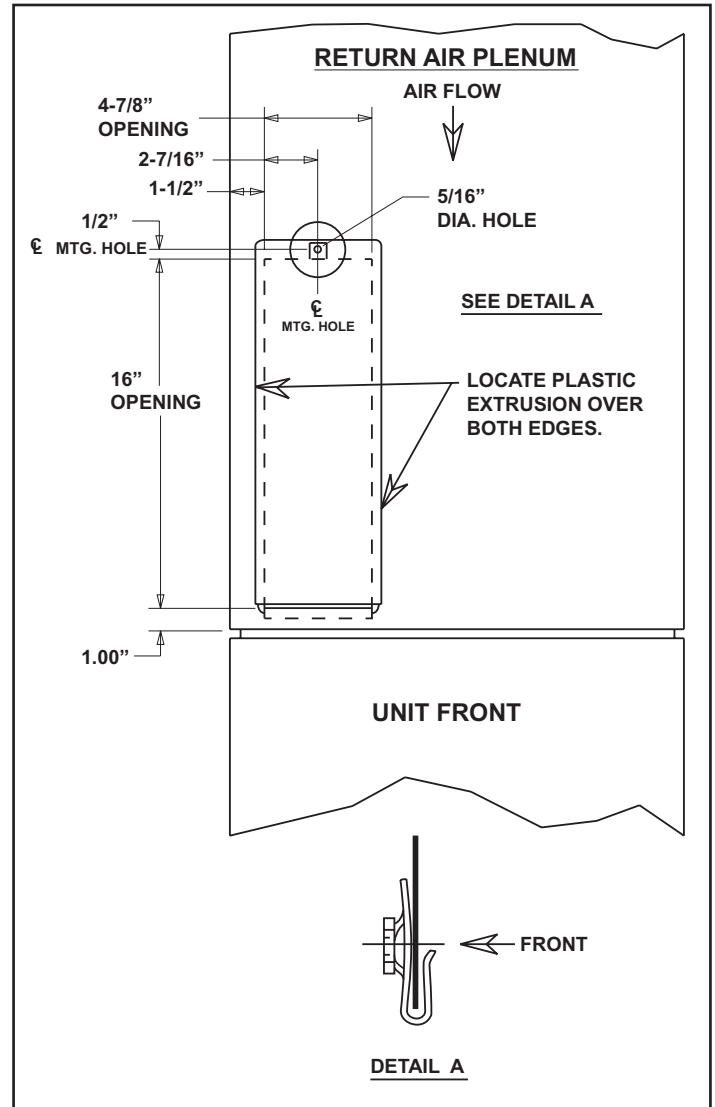

FIGURE 1
1. Cut a rectangular opening 16" x 4-7/8" in the front side of the return air plenum. Locate the lower edge of the opening 1" above the furnace and 1-1/2" from the left side of the duct. (See Figure 1).
2. Drill a 5/16" diameter hole, on the centerline of the upper edge of the opening, 1/2" above that edge. (See Figure 1).
3. Install the retainer nut from the kit over the upper edge of the opening with the tab inserting into the drill hole. (See Detail "A" of Figure 1).